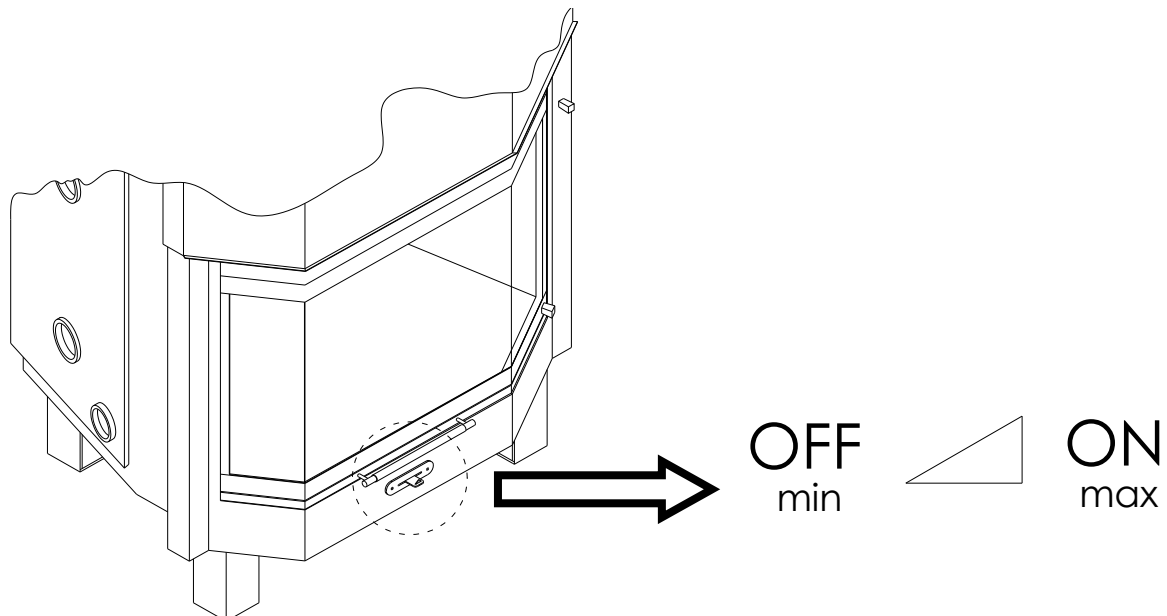

Figure 1: Typical HYDRO TYPE appliance primary air inlet control
- Move left the primary air inlet control in the fully closed position (see Figure 1)